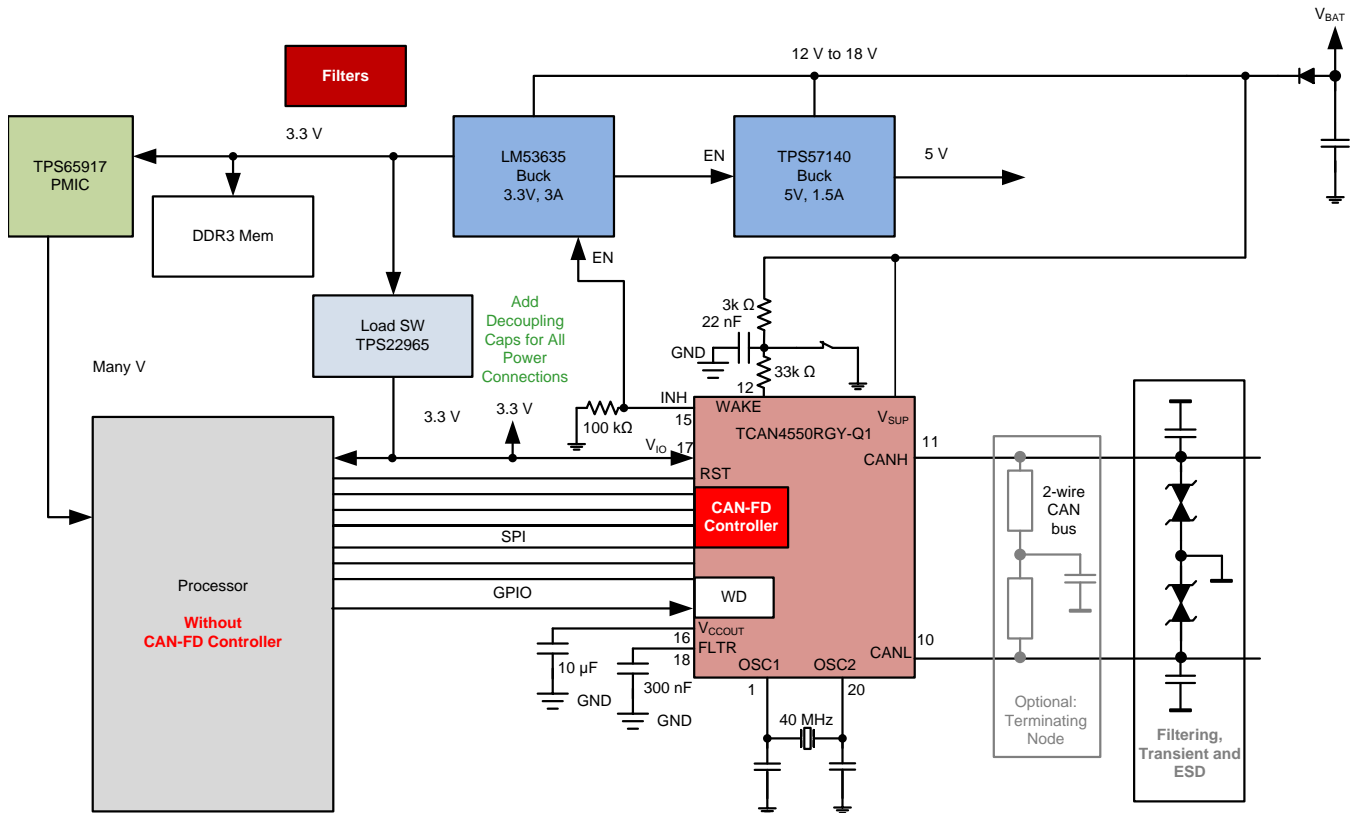

Figure 4. General Purpose Application
- General purpose applications where processor does not support CAN FD. See Figure 4